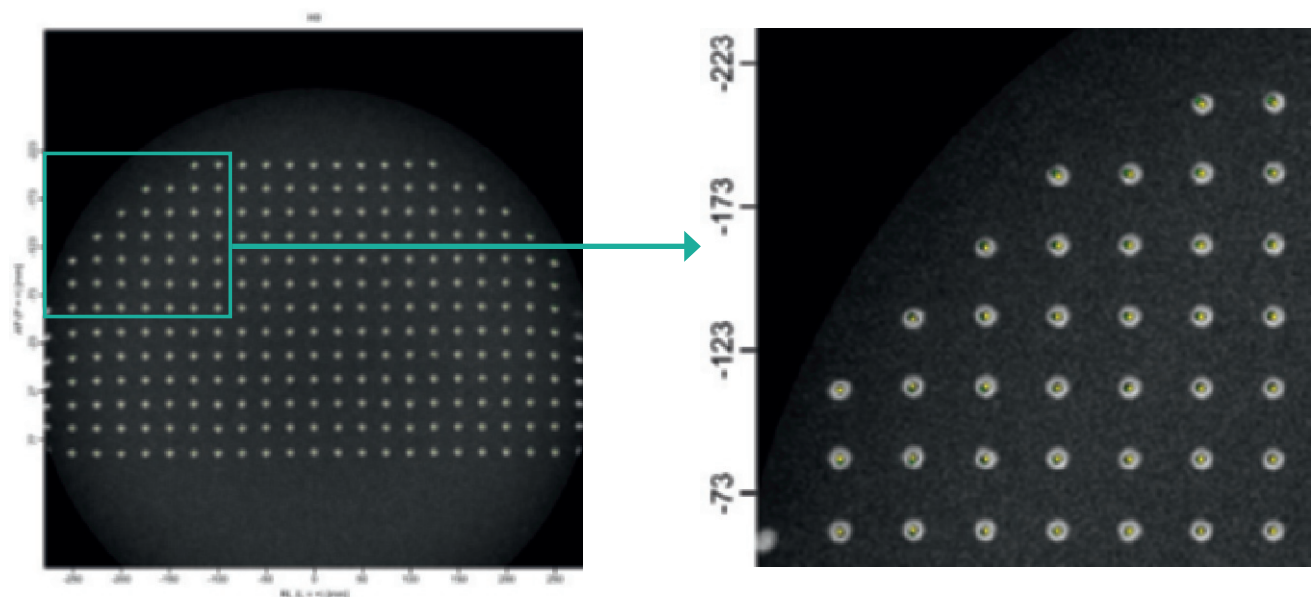

Figure 5: An example figure overlaying the scanned image, expected marker locations and observed marker locations. Left: Full view. Right: Zoomed in view
- A figure overlaying the scanned image, expected marker locations and observed marker locations (see figure 5)